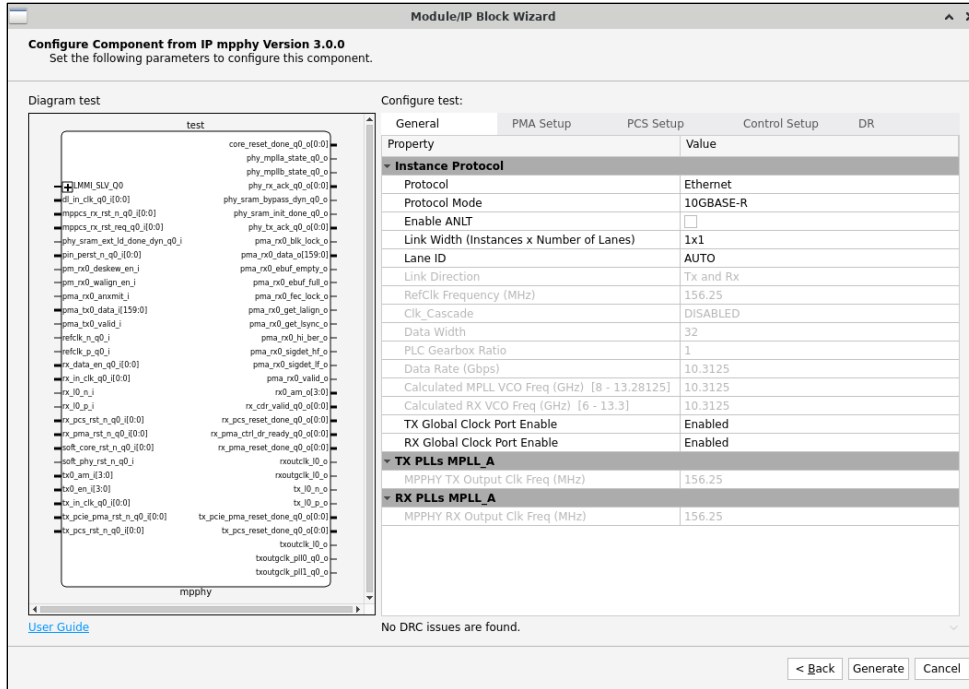

Figure 5.2. Configuring User Interface of the MPPHY Module
5. In the module dialog box of the **Module/IP Block Wizard** window, customize the selected MPPHY Module using the drop-down menus and check boxes. Refer to Figure 5.2 for a sample configuration. For configuration options, refer to the Attributes Summary section.